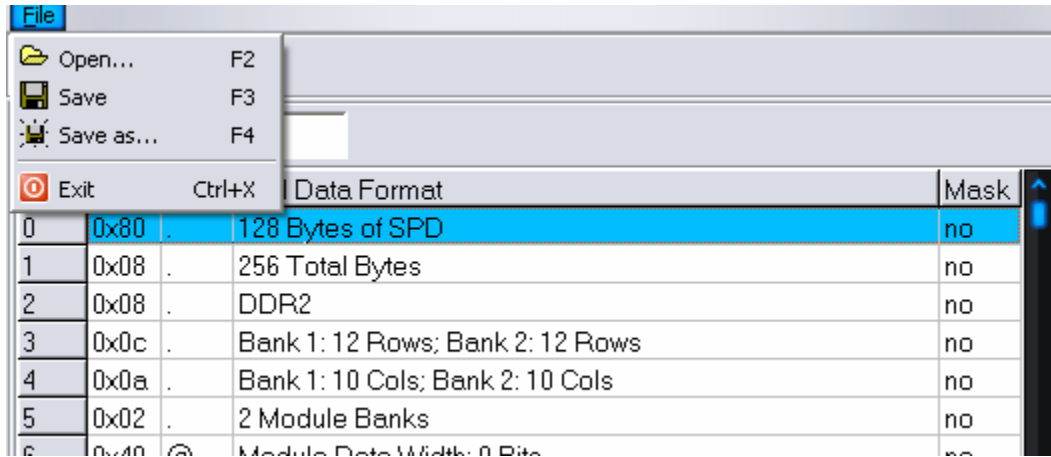

Fig. 40
Step 4: Once all the modifications have been finished, user can save the SPD information by four simple ways. (Fig. 40)